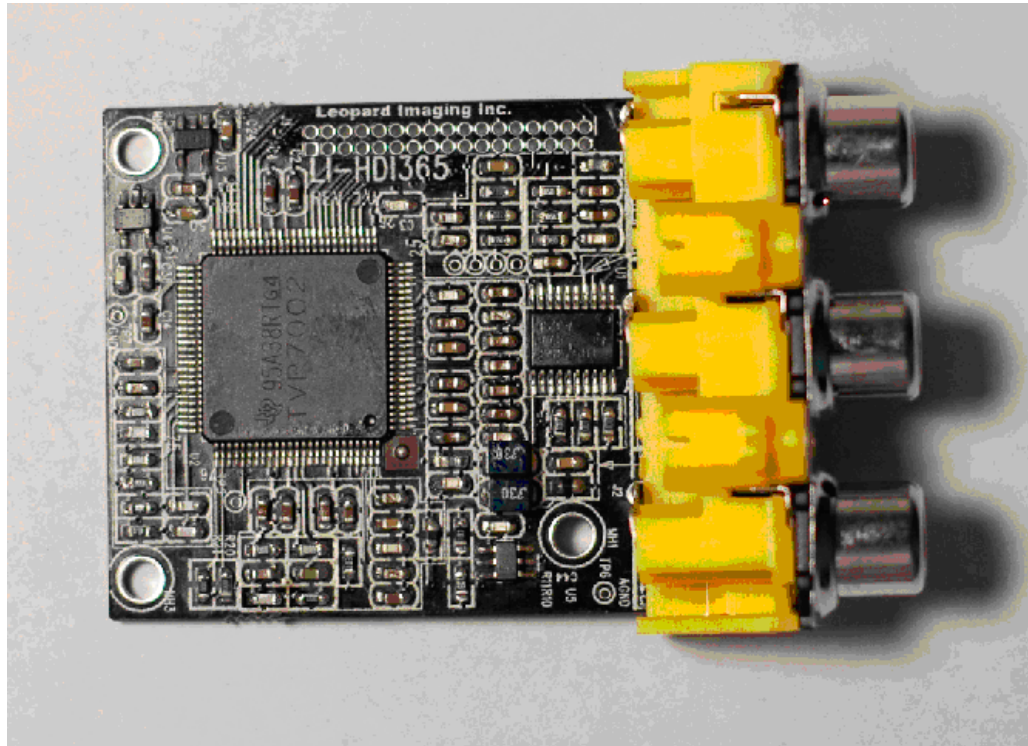

Figure 18. HD Component Video Input Board
1.2.8 HD Component Video Input Board, see Figure 18